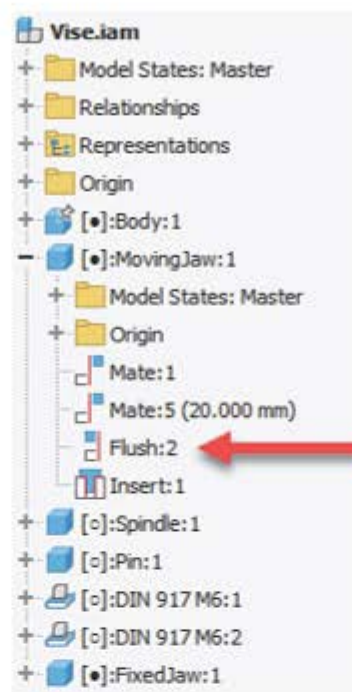

Figure 16–59
11. Which constraint type creates a Flush constraint, as shown in Figure 16–59?